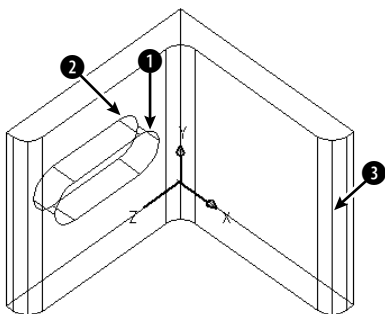

**Figure 24-50:** The mounting angle.
3. If the Solid Editing toolbar is not displayed, right-click any toolbar and choose Solid Editing. This is a mounting angle, shown in Figure 24-50. Note the UCS icon, which is at 0,0,0.